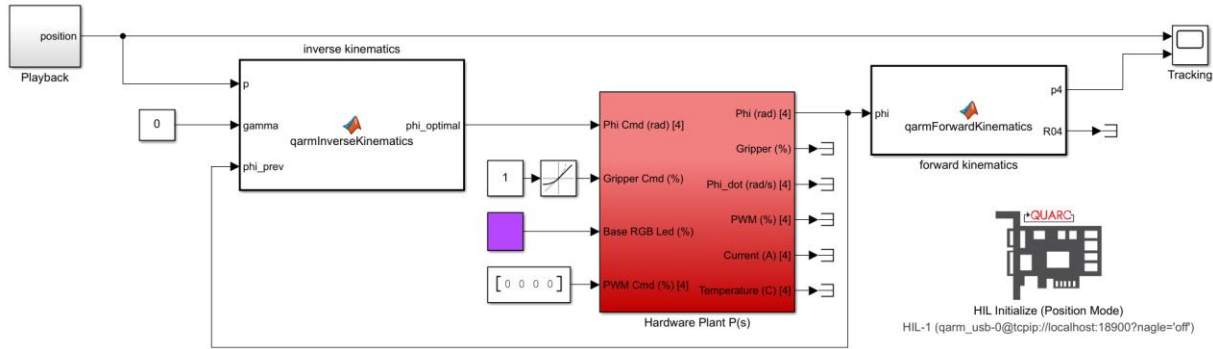

Figure 2.4: Simulink model *TeachPendant\_Follow.slx*
1. Open the Simulink model TeachPendant\\_Follow.slx (Figure 2.4). You will use this model to command the manipulator to follow the waypoints that were learned in the previous section.